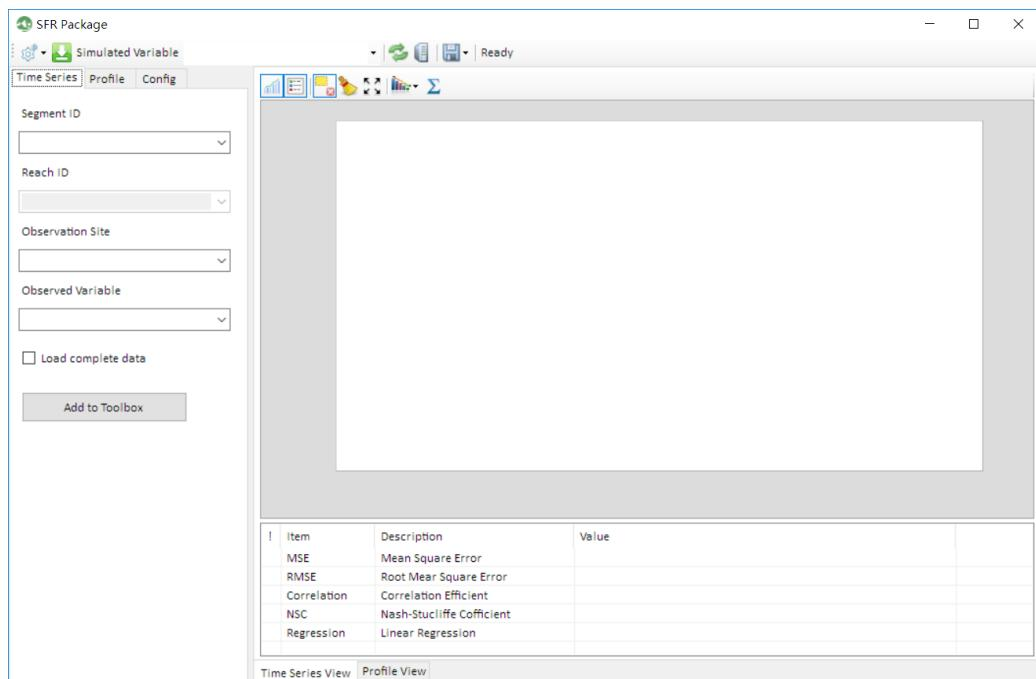

Figure 8-1. The output analysis dialog for SFR package.
- 1) In the Project Explorer, right click on the item SFR Output under the Modflow Output, and select Advanced.... A dialog entitle “SFR Package” is prompted to you (Figure 8-1).